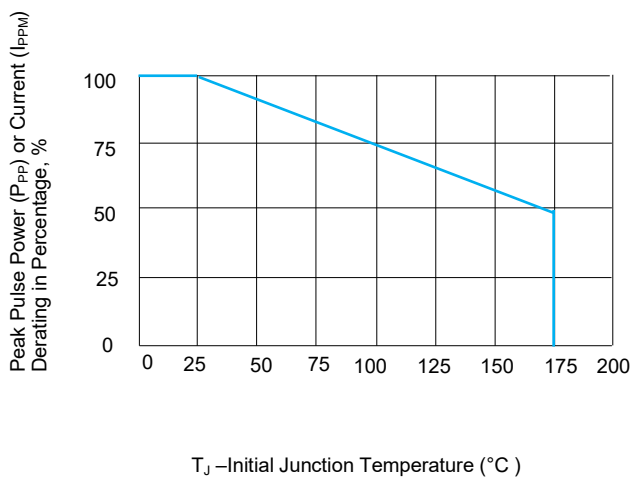
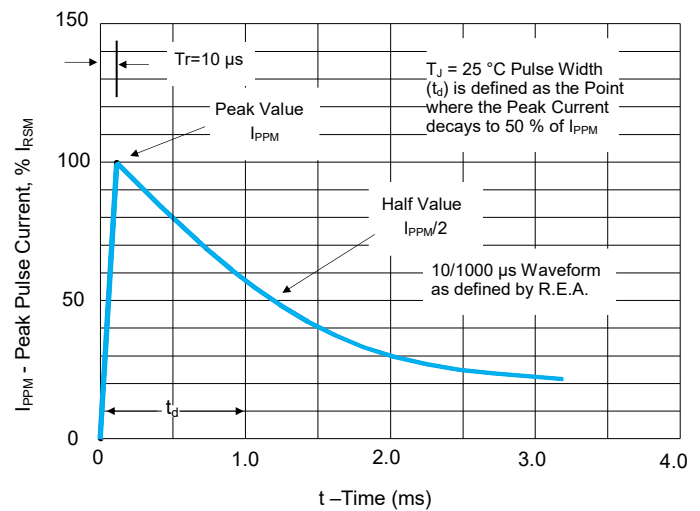

FIGURE 3 Peak Pulse Power Derating Curve
FIGURE 4 Pulse Waveform
- Non-repetitive current pulse, per Fig. 4 and derated above T_J (initial)=25 °C per Fig. 3.